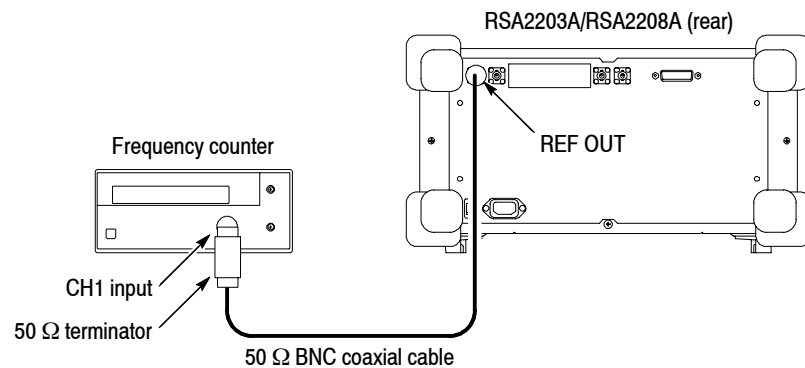

Figure 5-12: Initial test hookup
- b. *Hook up the frequency counter:* Connect **REF OUT** on the rear panel of the analyzer through a 50 Ω precision coaxial cable and a 50 Ω precision terminator to Channel 1 of the counter. See Figure 5-12.